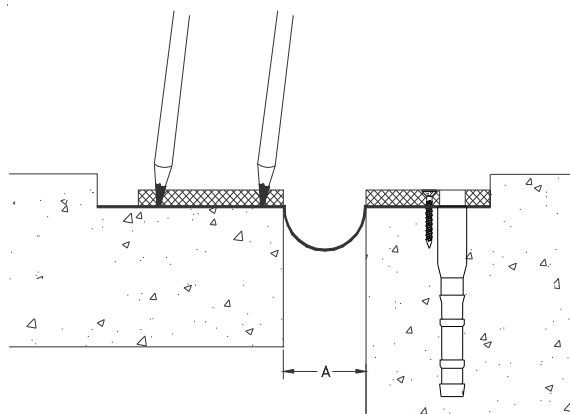

Figure 14
STEP 26. Put the pad into its installed position. Ensure that the pad is properly aligned. Using the pad as a template, mark the locations for the anchor holes on the substrate (see Figure 14). Remove the pad from its installed position, and drill the anchor holes through the water barrier and/or fire barrier retainer, if specified and provided, and into the concrete at the marked locations.